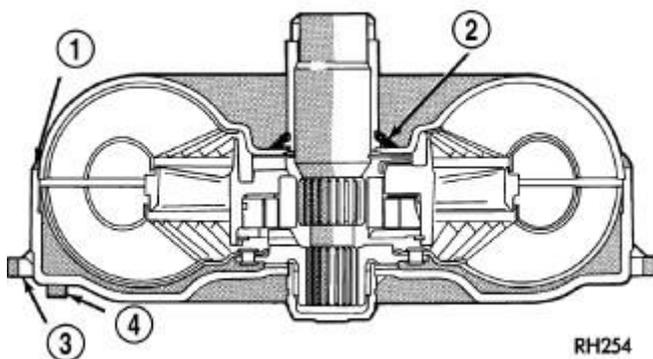

Fig. 30: Converter Leak Points - Typical
- Torque converter weld leaks at the outside diameter weld (1). Refer to **Fig. 30**.
- Torque converter hub weld (2).